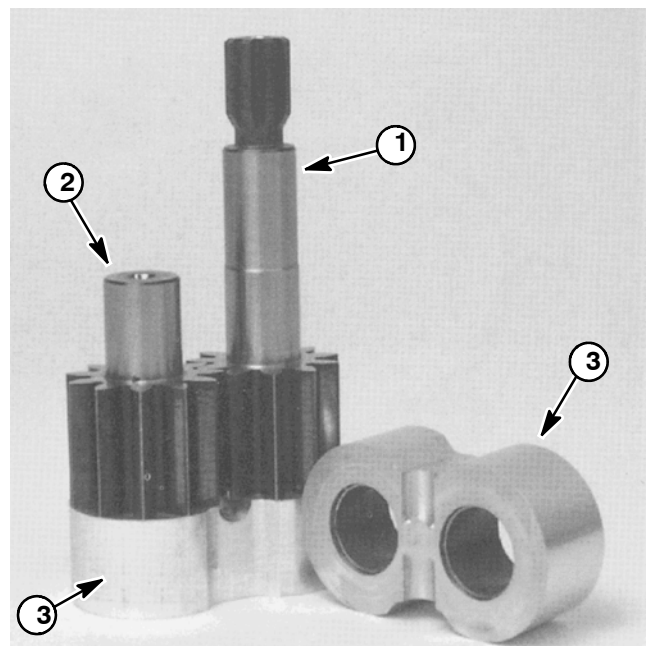

Figure 89
3. Inspect drive gear, idler gear and bearing blocks (Fig. 89) for the following: